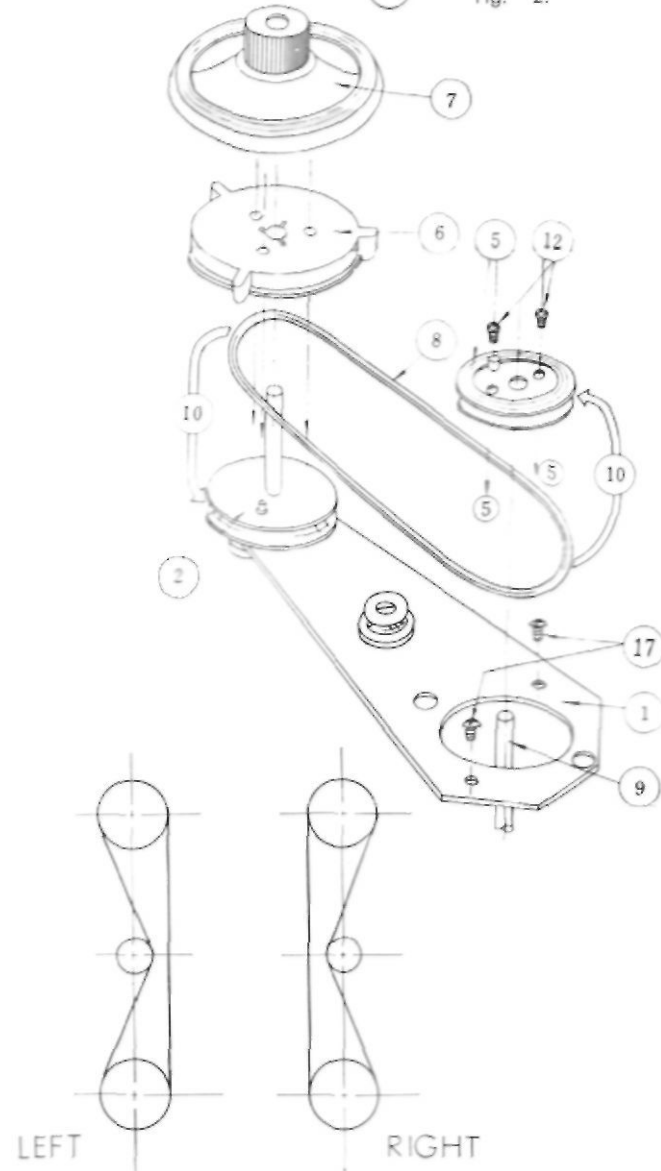
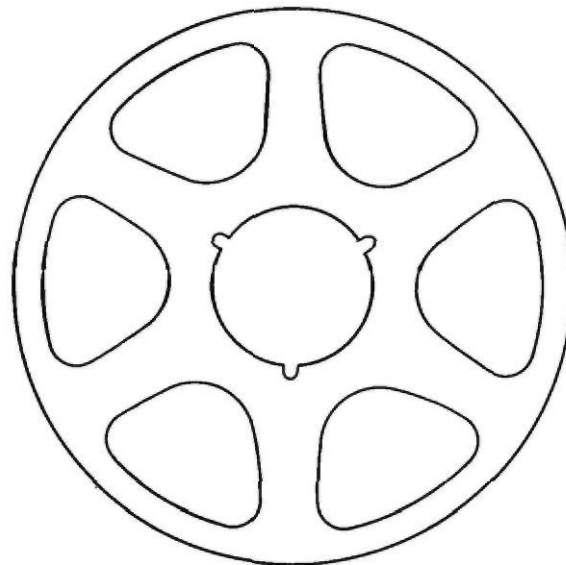

Fig. 3.
Fig. 5
**3. Installation:** Refer to Fig. 3.)
Set the Belt (8) on Belt Groove and 7" Reel Table on the RTMA type reel table in Fig. 3.
This type of reel can be used on Reel Table (2) of Fig. 3.
This type of reel is shaped in its core as shown in Figure 5, and is mostly made of metal. This reel is to be used by putting the NARTB type reel adapter (6) in Fig. 3 on the RTMA type reel table (2) of the same figure.
When 10-1/2" reel is used, it is important to hold it on the reel shaft as tight as possible using the reel retainer (7) shown in Fig. 3. Put the reel retainer by slightly rotating it in either direction to hold the 10-1/2" reel tight in position.